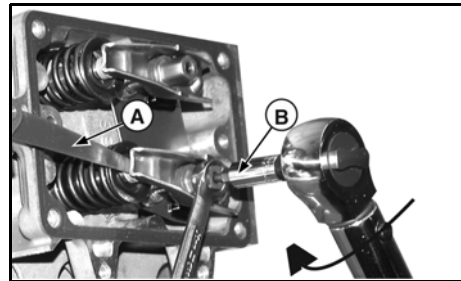

Figure 41
3. Using a feeler gauge (A, Figure 41), adjust rocker nut to obtain the clearance as listed in Section 12 - Engine Specifications.
4. Hold rocker nut and tighten the rocker ball setscrew (B) to the torque valve shown in Section 12 - Engine Specifications.